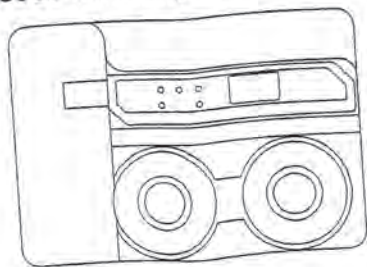
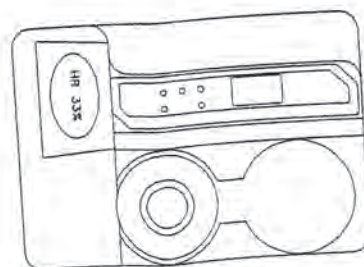

FIG 1
FIG 2
※ The carrying case is for not only storage (see FIG1) but also calibration (see FIG2).
5.1.1 Turn on the meter. Plug unit in 33% salt reference bottle and put unit into the carrying case as shown FIG2. Check the reading on LCD after 40 minutes. If the display reads between 31.5% and 34.5%, that means the meter is accurate. Otherwise, it needs to be recalibrated. Please calibrate the meter by following calibration instruction 5.3.A.